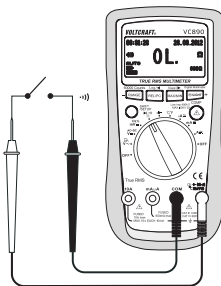

Fig. 7
1. Turn on the DMM and select the measuring range " Ω ". Press the SHIFT/SETUP button (3) until the continuity test symbol \rightarrow appears.
2. Insert the red test lead in the " Ω " measuring socket (7), the black test lead in the COM measuring socket (8) (Fig. 7).